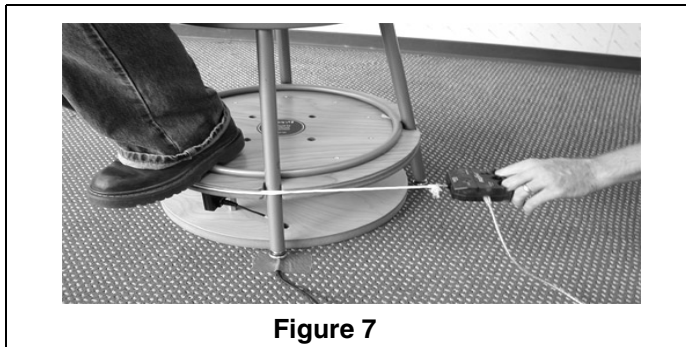

Figure 7
2. Wrap a rope or string around the groove of the upper platform (see Figure 7).